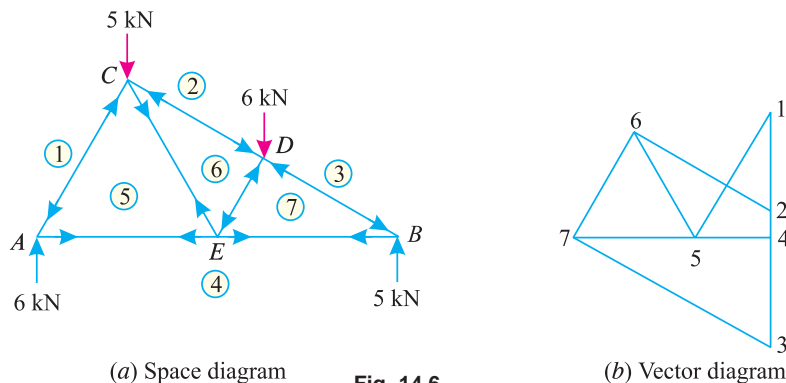

Fig. 14.6.
First of all, draw space diagram for the truss alongwith loads and reactions as shown in Fig. 14.6 (a). Name the various members of the truss and forces according to Bow's notations.
Now draw vector diagram as shown in Fig. 14.6 (b) and as discussed below :
3. Now draw vector diagram for the joint A. For doing so through 1, draw 1-5 parallel to AC and through 4, draw 4-5 parallel to AE meeting the first line at 5. Now 1-5-4-1 is the vector diagram for joint A, whose directions follow 1-5, 5-4 and 4-1. Similarly, draw vector diagrams for the joints B, C, D and E as shown in Fig. 14.6 (b).